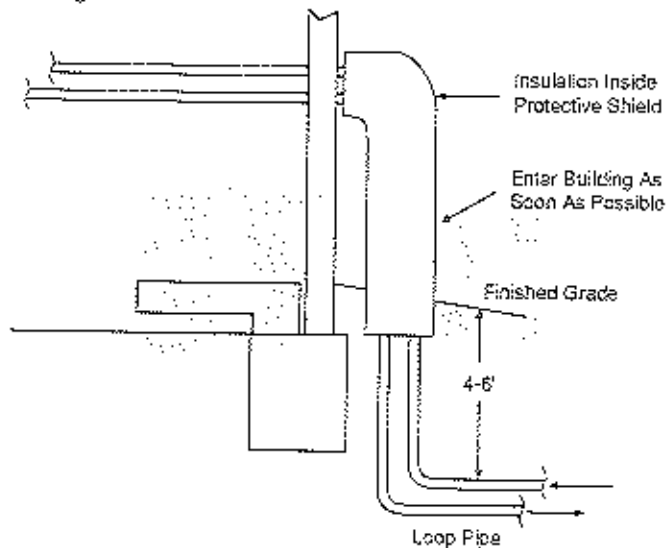

Figure 3
*Retrofit Construction:* Trench as close as possible to the footing. Bring the loop pipe up along the outside wall of the footing until it is higher than the slab. Enter the building as close to the slab as the construction allows. Shield and insulate the pipe to protect it from damage and the elements as shown in Figure 3.